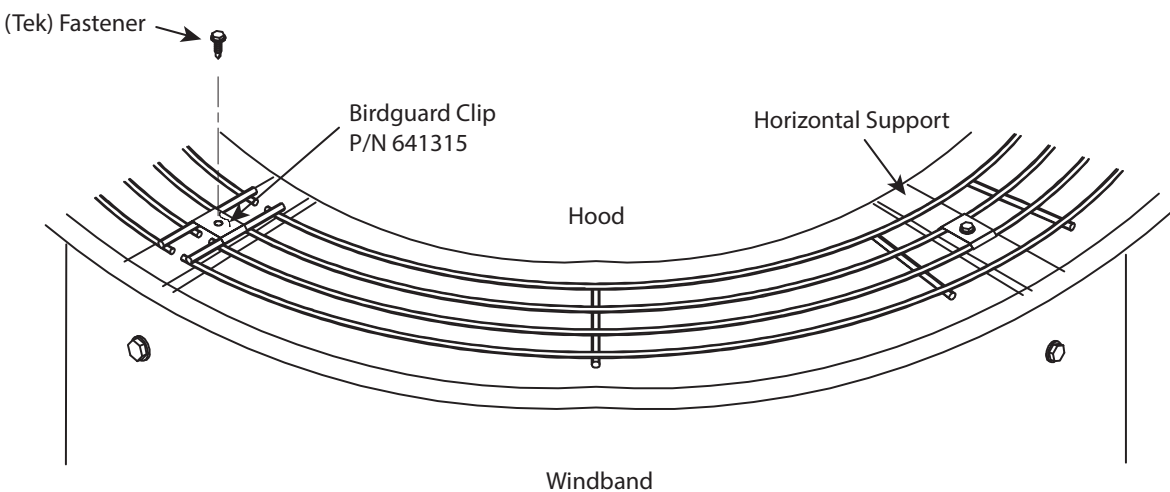

Figure 4
2. Secure both birdscreen pieces with a birdscreen clip at each horizontal support location using a #12 x 1 inch self-drilling fasteners (See Figure 4). **NOTE:** Birdscreen clip located at birdscreen ends need to cover both birdscreen ends with all other clips covering at least 2 radial wires within the birdscreen provided (See Figure 4). Sizes 300 and above utilize 2 birdscreen clips and fasteners at each horizontal support location.